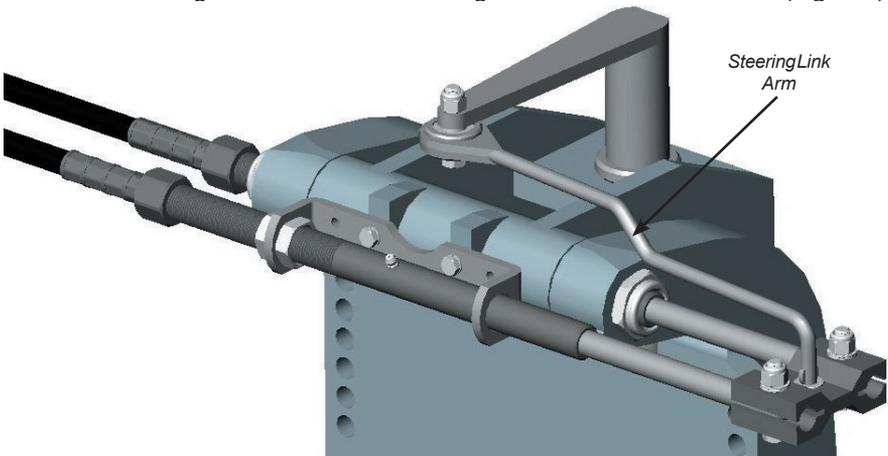

Fig B11 - Fitting the steering link arm
- i) Referring to the notes made when the steering was disassembled, reattach the steering link arm between the engine tiller and the dual block (Fig B11).